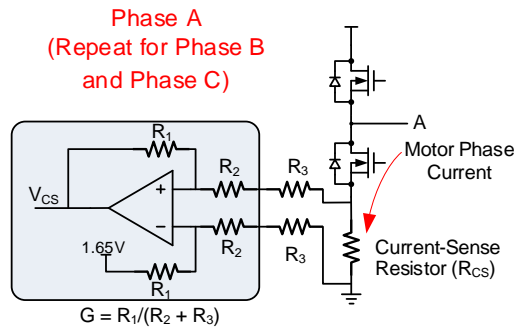

Figure 23: Current-Sense Diagram
A good rule of thumb is to leave a 50% margin for the power rating to guarantee that the device can operate normally at high temperatures. Using Figure 23, the amplifier gain (G) can be calculated with Equation (10):
It is typically recommended to leave a minimum of a 20% margin to guarantee a robust design. Ensure that this value is not too small. To improve current-sense accuracy, the calculated value should be at least 60% of 1.65V. Figure 23 shows the current-sense diagram.